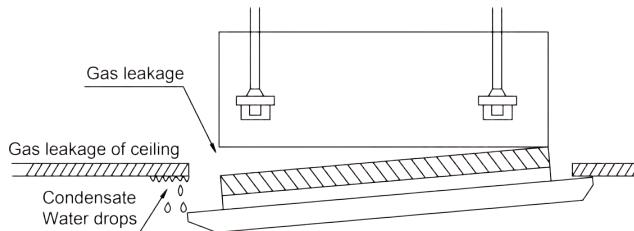

Fig. 4.31
- (2) Improper screwing of the screws may cause the troubles shown in Fig. 4.31.